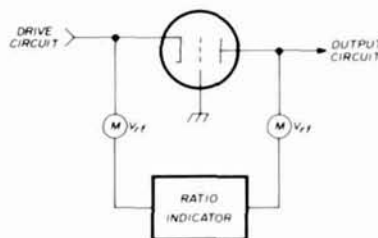

fig. 2. Linearity meter using voltage measurement applied to a grounded-grid amplifier. See ARRL handbook. Circuit must be built into amplifier.
fig. 2. Circuit of added filter and its amplifier.  $V_{DD}$  for the fet was obtained through a 1-watt zener diode from the i-f strip 72-volt screen supply, which was decreased through two 15k, 1-watt resistors in parallel. C1, C2 are 130 pF, 1%, or trimmers.
need be measured; usually the voltages, since this is easier. Such a splatter meter is sketched in fig. 2 for a typical grounded-grid stage. Design values for this circuit are in the ARRL *Radio Amateurs Handbook*, Chapter 6 of the 1972 edition. (The circuit is not in the 1975 edition, but may be in some earlier ones.)
The circuit of fig. 2 can be added to any amplifier. Most users of commercial amplifiers don't want to make changes to the equipment lest they reduce the resale value. Also, many amateurs seem to prefer separate black-box add-ons for such functions.
A dot with contact bounce on make looks like fig. 2 in a distant receiver. Most bounce occurs in the first three milliseconds, although a few keyers that use keying relays have actually split a dot into two halves. Also, bounce can occur at the break end of a dot.
fig. 2. The irregular bounce at (A) looks like noise and is associated with "mushy" key clicks. The square-shaped bounce in (B) may not be noted by ear, except that the abrupt rise and fall times generate sharp key clicks.